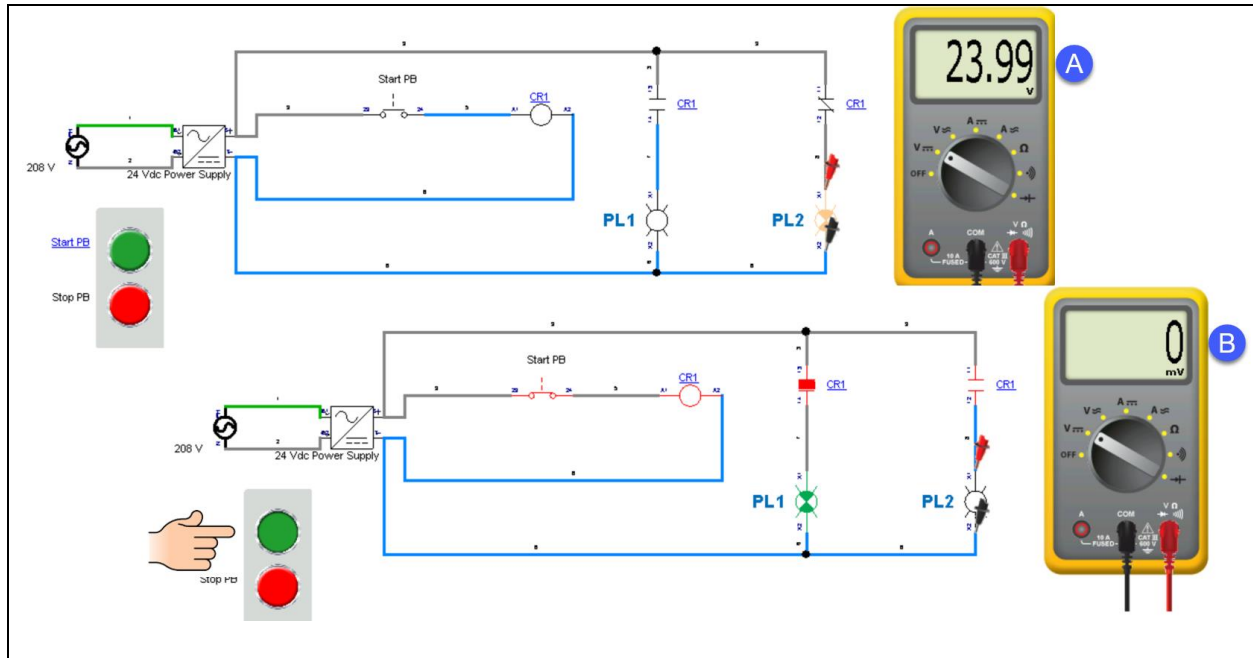

Figure 13. Measuring the voltage drop across a pilot light.
2. Figure 13 shows how to measure the voltage across a pilot light of a relay circuit that is using the contacts to turn on/off pilot lights.
3. Measure the voltage across PL2 (as shown in Figure 13-A) if the StartPB is not actuated _____.
4. Measure the voltage across PL2 (as shown in Figure 13-B) if the StartPB is actuated _____.